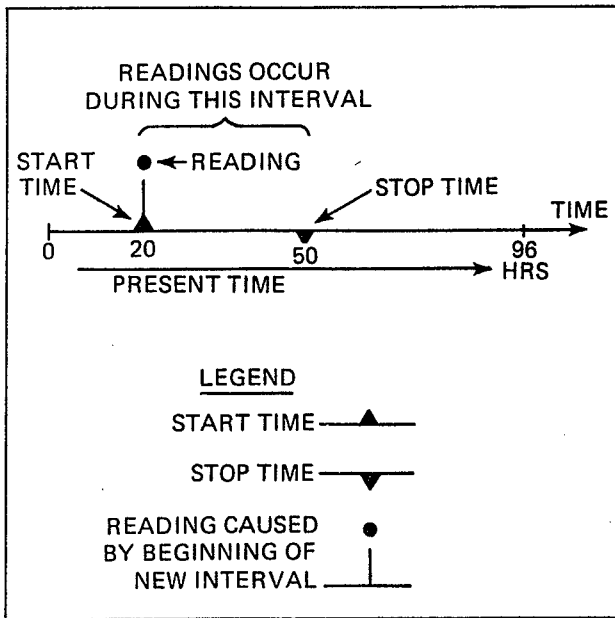

Figure 3.9 - Use of Start and Stop Time Register
3.4.11.6 The Start Time and Stop Time registers form a "window" during which readings can take place. As an example, Figure 3.9 shows the Start Time set to 20.0000 hours and the Stop Time set to 50.0000 hours. The example also shows how the Present Time has incremented past the Start Time, causing a reading to take place. Other readings may be triggered between start and stop times under control of the Interval, Subinterval, and N registers, which will be covered later.